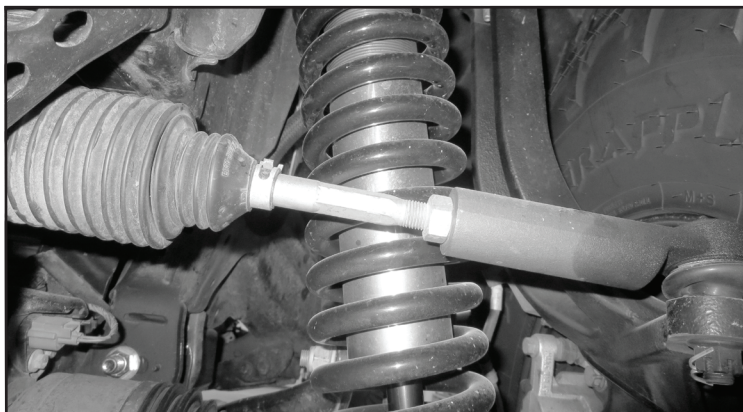

FIGURE 63 - STEP 48
48. Remove the factory outer tie rod ends. Install FT31056 (Outer Tie rod) to the inner tie rod. Leave 1/2" of visible thread. **NOTE: This is a starting point final adjustments will be made when alignment is performed.** Install the new tie rod end to the knuckle. Torque to 56 ft-lbs. **SEE FIGURE 63.**